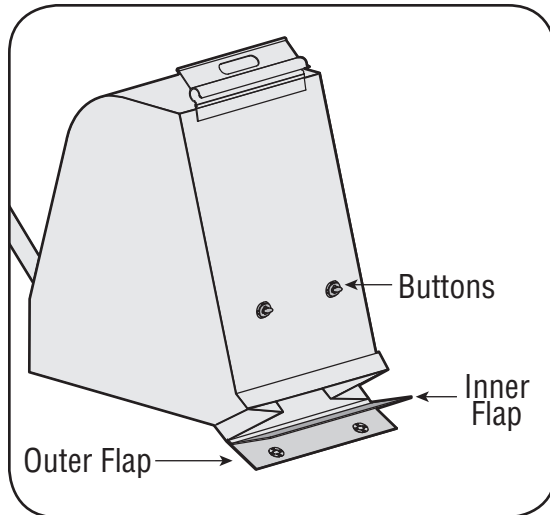

Figure 11
2. Twist the two buttons on the back of the bag to unlock and empty contents. See Figure 11. Hold bag handle and bag clip while emptying the contents.
4. Fold outer flap over inner flap and insert buttons on the bag through metal outlets. See Figure 11.